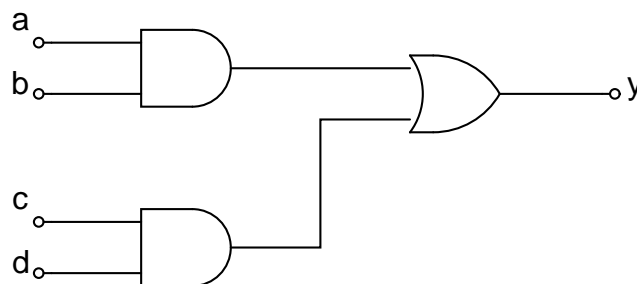

Figure 2: A simple logic circuit to be implemented on Krypton
Quartus II is the IDE provided by Altera for the user to write their HDL code (VHDL or Verilog) to target a digital system designed to be implemented on a target PLD. The IDE allows for code compilation, followed by generating a programming file for a specific target PLD (a CPLD or and FPGA). Quartus II has a free subscription/web edition that can be used. Suppose we wish to design and implement on Krypton, the simple logic circuit shown in Figure 2. This section provides a step-by-step method for doing the same.
3. This opens up ‘Page 1’. Here, you need to specify a working directory for your project. Click **Browse (...)** to create a new folder for this project. Next specify the project name and top level design entity. **Important:** This is a very critical step in your design. Top level design entity refers to the name of the entity in your HDL code (if you are using VHDL) or name of the module (if you are using Verilog) which you wish to implement. By default the entity name follows the same name as the project. It is preferred not to change this. Since we wish to implement the circuit in Figure 2, name the project as **myLogicCkt**. The top level entity is also named **myLogicCkt** by default. Click **Next**.